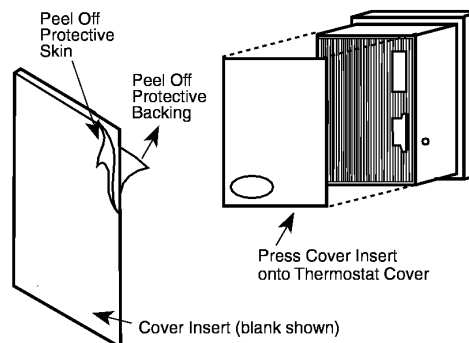

Figure-5 Cover Insert Installation.
2. Remove protective backing and protective skin on face of cover insert (see Figure-5).